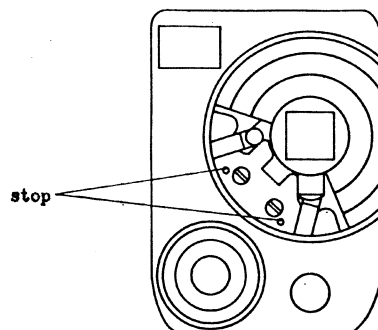

Fig. 129.1
It can be corrected by changing the two spool stops after removal of the Variogon lens (see Fig. 129.1).
- 1.3 Change the stops for the spool with brass forceps (see Fig. 129.1) until the shape of the aperture is correct. Paint the stops with graphite where they touch the spools.